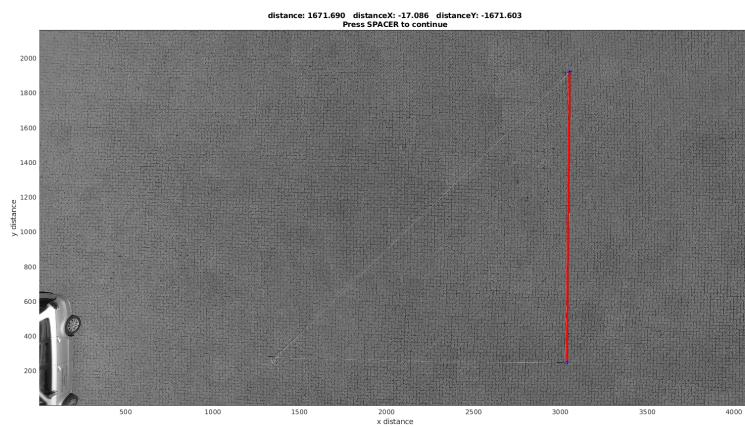

Figure 3.11: Right click in the starting and end 10 meters line.
4. Define a known distance: Make a mouse Right click in the first corner, and then Right click again in the end corner. The following figure 3.11 will be displayed.